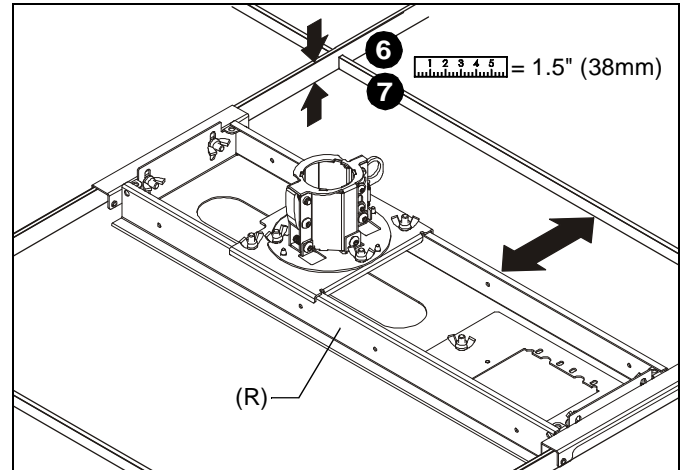

**Figure 7**
2. Determine exact location of column. Mark location on lower (finished) side of ceiling tile. (See Figure 7)